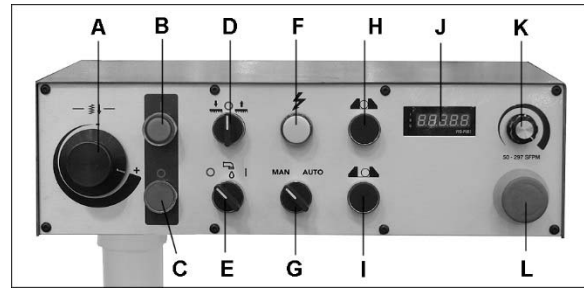

Figure 8-1: control panel
Refer to Figure 8-1.
**IMPORTANT:** In *manual* mode, bow will remain in down position – select up direction with switch (D, Figure 8-1) to raise bow. In *auto* mode, after cut completion bow will rise to original position.